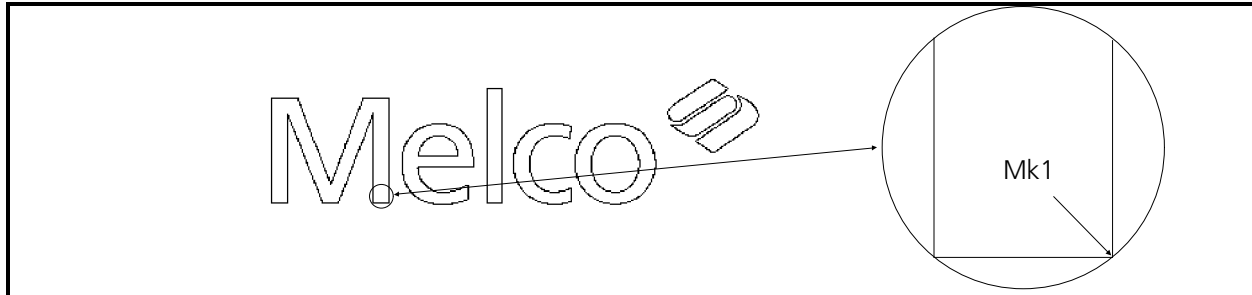

Figure 6-27
3. Click at the location on the displayed image where you want to place a Mk1 to start the design. This identifies the location for the needle entry starting the first stitch. In our example we will enter into the lower area of the right leg of the capital letter **M** (see Figure 6-27).
1. Click on the Normal Stitch tool in the toolbar and note the entry in the stitch list. This will allow a stitch to be generated between the first Mk1 (see Figure 6-27) and the second Mk1 when the second Mk1 is placed.